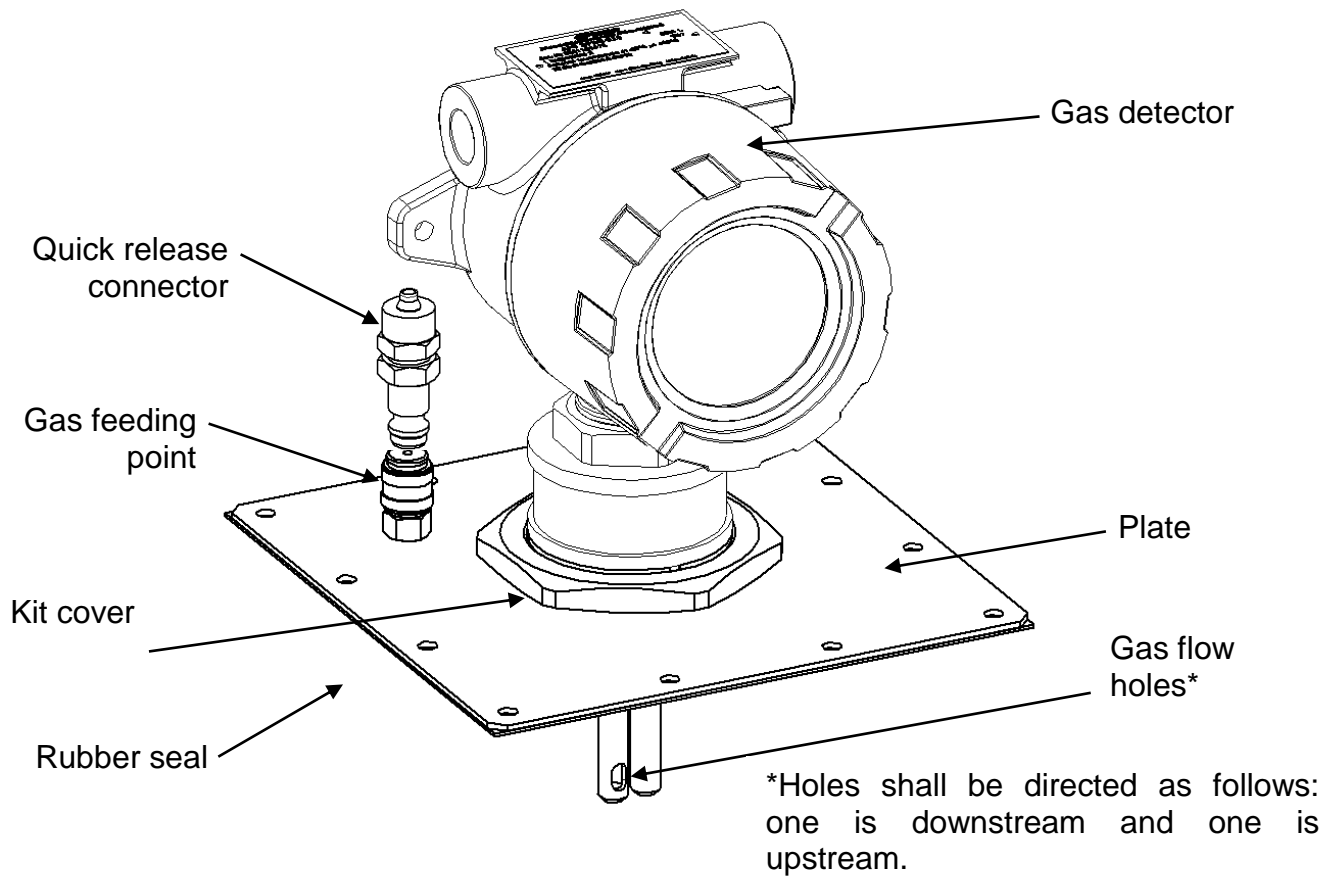

Figure 13 – External view of the gas detector and air duct mounting kit.
- Screw the gas detector into the cover of the kit (Figure 13);
External view of the mounted gas detector is shown at Figure 13.